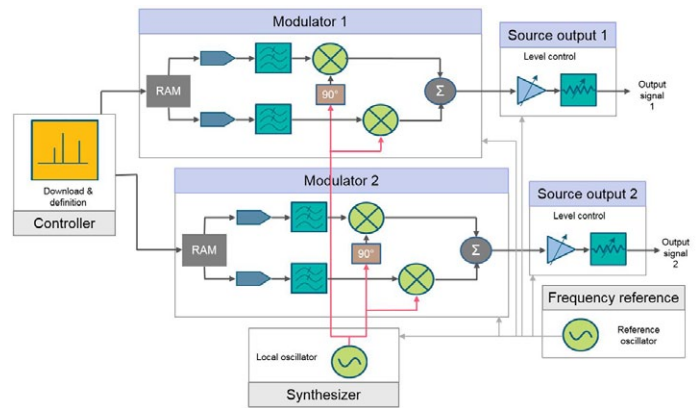

Fig. 3: Multi-channel phase-coherent sources with a common synthesizer.
For phase alignment, the signals must have a constant relative phase at all instances in time, then coherence is a statistical property between signals. To achieve true phase-coherent measurements, a common local oscillator (LO) can be shared across source or analyzer channels so that all channels share the same phase properties. In figure 3, a single master synthesizer is used to enable a stable phase relationship.